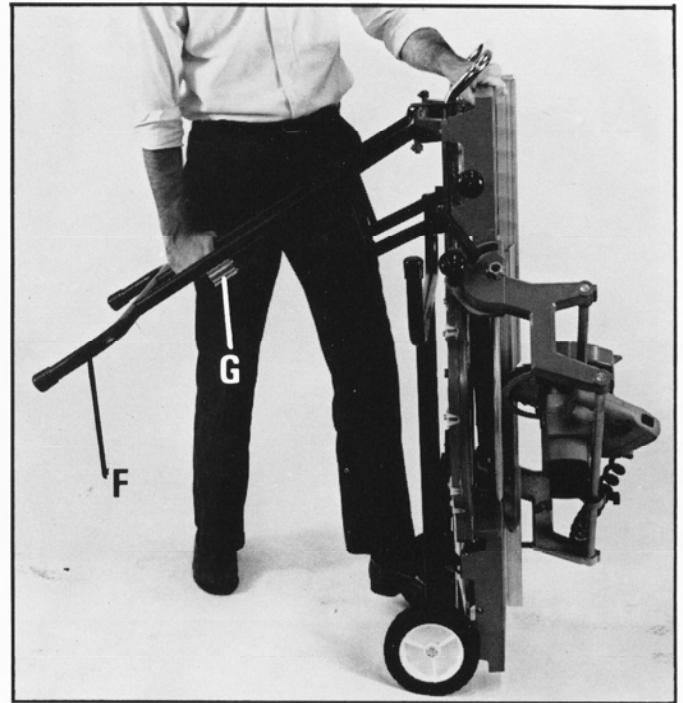

Fig. 70
5. Place saw in position, as shown in Fig. 70, and place foot on axle to steady saw while folding left hand leg (F) against right hand leg. Clamp (G) Fig. 70 will clamp against other leg keeping both legs together.